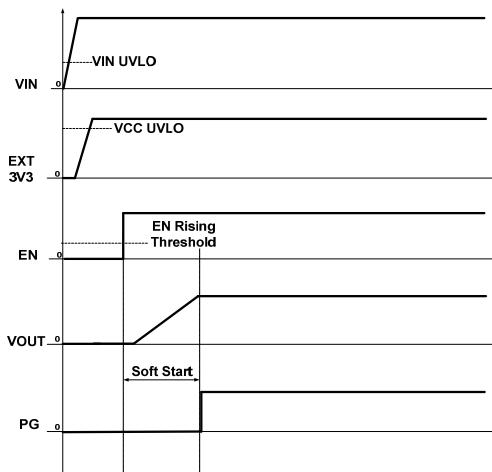

Figure 7: Start-Up Power Sequence
The MP8720 employs a soft-start (SS) mechanism to ensure a smooth output during power-up. When EN becomes high, the internal reference voltage ramps up gradually, and the output voltage ramps up smoothly as well. Once the reference voltage reaches the target value, the soft start finishes, and the MP8720 enters steady-state operation (see Figure 7).